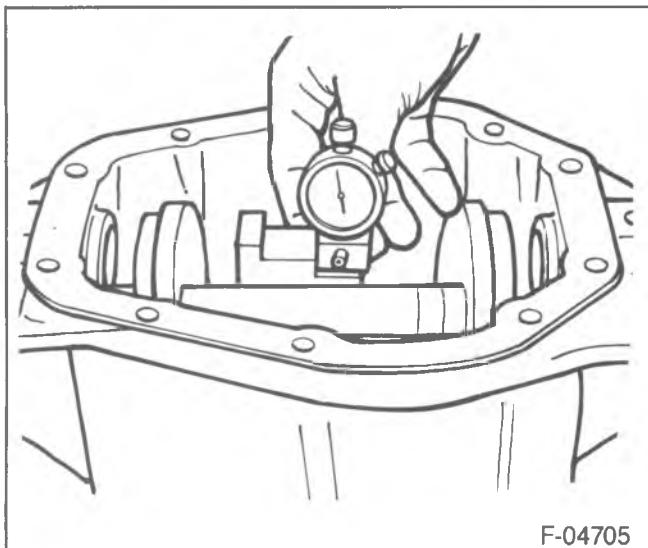

Figure 107—Scooter Gage on the Height Block
6. Place D-115 onto the height block (figure 107).